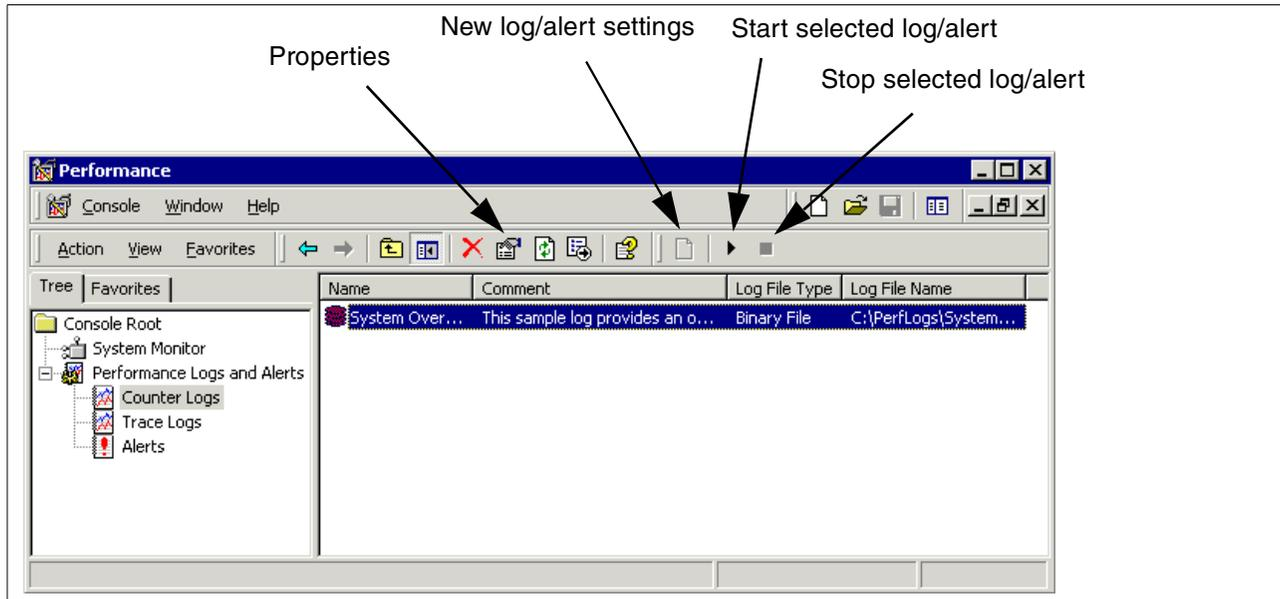

Figure 125. Performance Logs and Alerts
1. Click the **new log settings** icon (📄) on the toolbar in Figure 125.
1. Select the counter log you want to start; click the **Start Selected Log** icon (▶) on the toolbar in Figure 125 on page 133.
2. To stop the counter log, click the **Stop Selected Log** icon (■) on the toolbar in Figure 125.